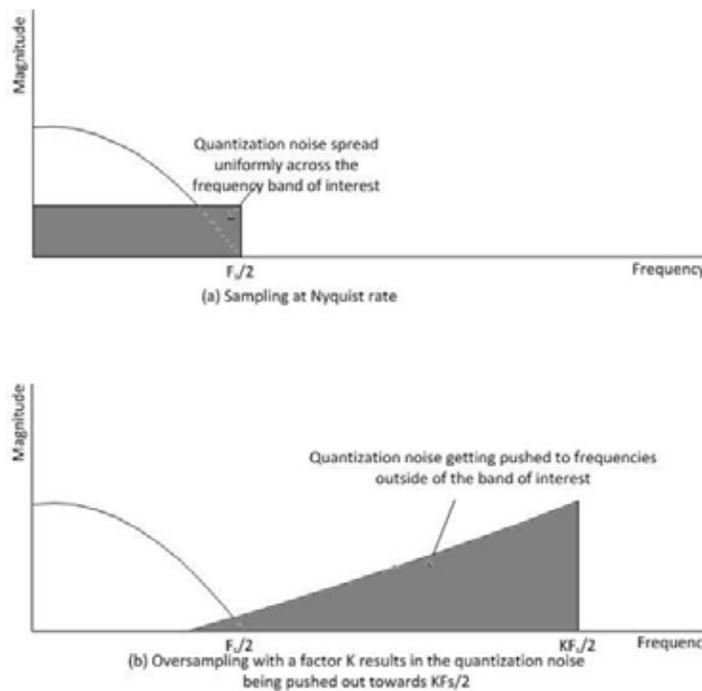

Figure 5. Oversampling pushes quantization noise beyond the frequency bands containing the signal of interest.
Additionally, oversampling helps reduce noise and increase the dynamic range of a measurement by spreading the quantization noise across the wider frequency spectrum of the oversampled data. Inherent in the analog-to-digital conversion process, quantization is a factor in all forms of digitization. During sampling, quantization noise is spread uniformly across the Nyquist frequency band of interest, as shown in the first graph in Figure 5:
In the second graph of Figure 5, the digitization rate has been increased by an oversample factor (K), which pushes the quantization noise out to higher frequencies. Since the frequency band of interest is below the Nyquist frequency, the quantization noise is greatly reduced relative to the measured signal. Because of this, delta-sigma ADCs can provide superior signal-to-noise ratios with exceptional dynamic range.